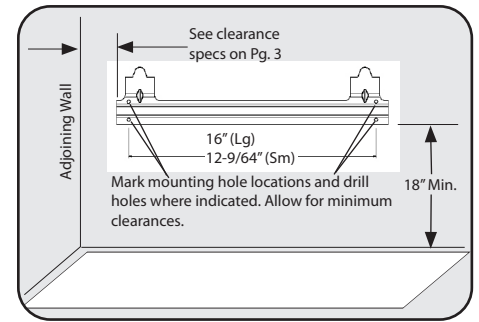

Figure 7
2. Mark screw locations on wall. See figure 7.
⚠ WARNING: Maintain minimum clearances shown in Figure 7. If you can, provide greater clearances from the floor and joining wall.